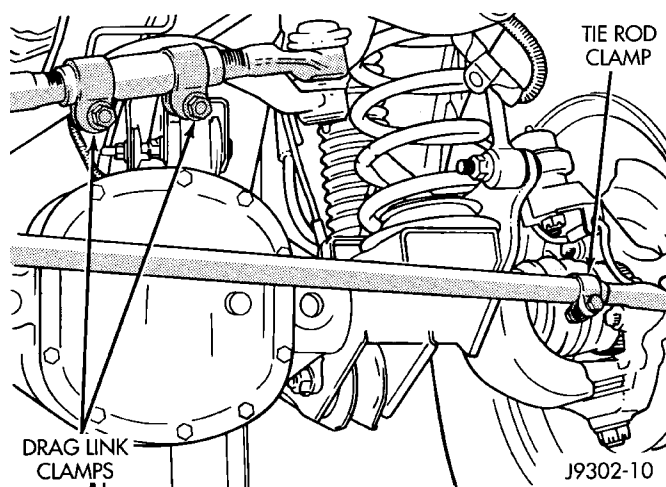
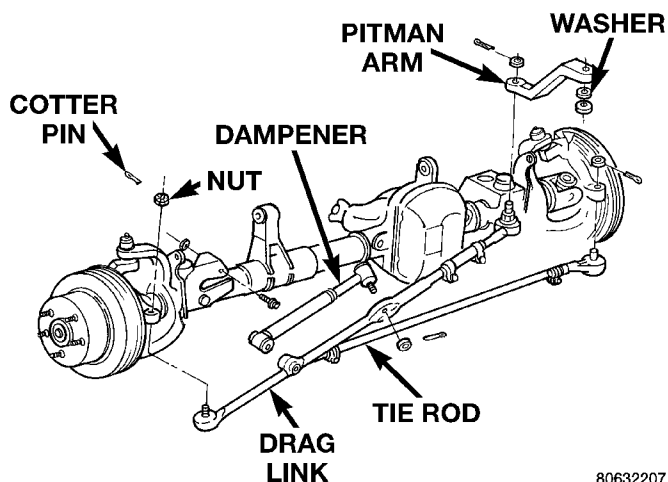
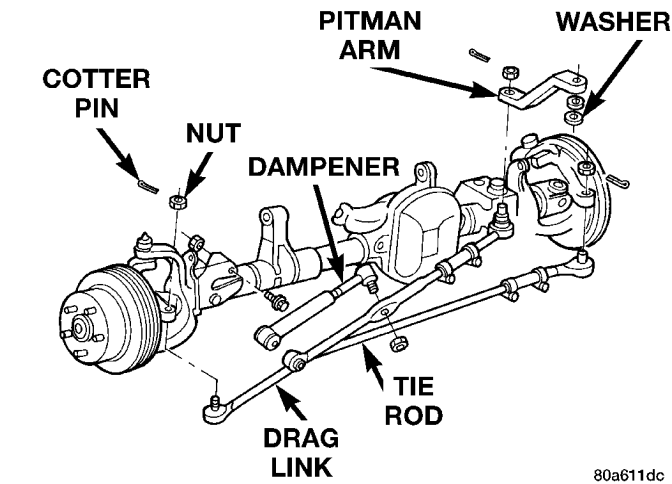

Fig. 3 Drag Link and Tie Rod Clamp
Fig. 4 Steering Linkage – 6 Cylinder Engine
Fig. 5 Steering Linkage – 8 Cylinder Engine
- (1) Apply parking brakes.
- (2) Start the engine and turn wheels both ways before straightening the steering wheel. Center and secure the steering wheel.
- (3) Loosen the adjustment sleeve clamp bolts (Fig. 3).
- (4) Adjust the right wheel toe position with the drag link (Fig. 4) and (Fig. 5). Turn the sleeve until the right wheel is at the preferred positive TOE-IN specification. Position the clamp bolts as shown (Fig. 3) and tighten to 49 N·m (36 ft. lbs.).
(5) Adjust the left wheel toe position with the tie rod. Turn the sleeve until the left wheel is at the preferred positive TOE-IN specification and the TOE DIFFERENTIAL is within .05°. Position the clamp bolts as shown (Fig. 3) and tighten to: